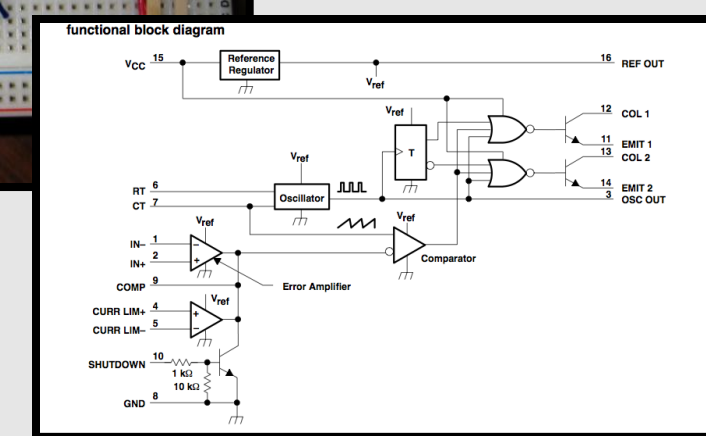

Fig 4: This preexisting diagram is confusing, and would not be sufficient to assemble a working circuit
6. Check all connections and make sure signal to the first op amp does not exceed the 5V supply rail. The output of the PWM also changes (as seen in Figures 4 and 5). The signal for the DAC output of the DAC.